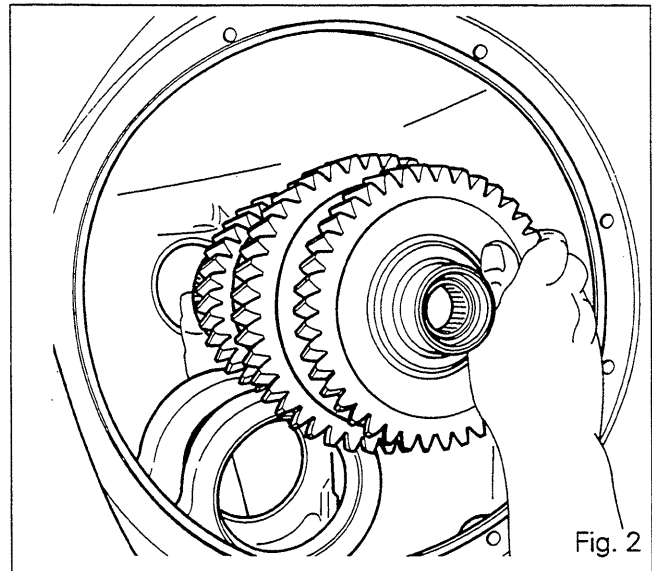

Fig. 2
10. Remove the layshaft nut (52) and the bearing cone (50).
11. Remove the assembled layshaft (51) with its gears (Fig. 2).
12. Remove shim [53] and remove the bearing cone (54).